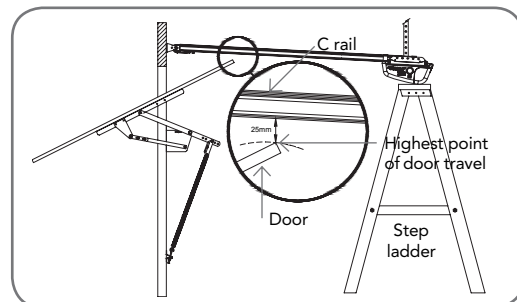

fig 17
- Stop the door when it is at its highest point of travel. Allow 25mm additional height for clearance between the door and the track (Fig. 17).